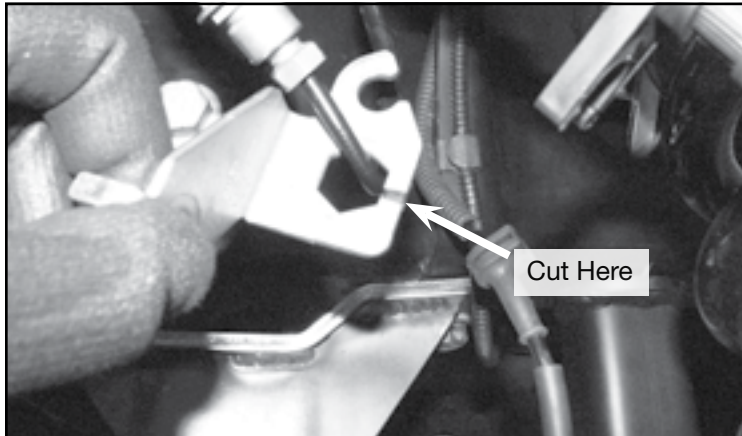
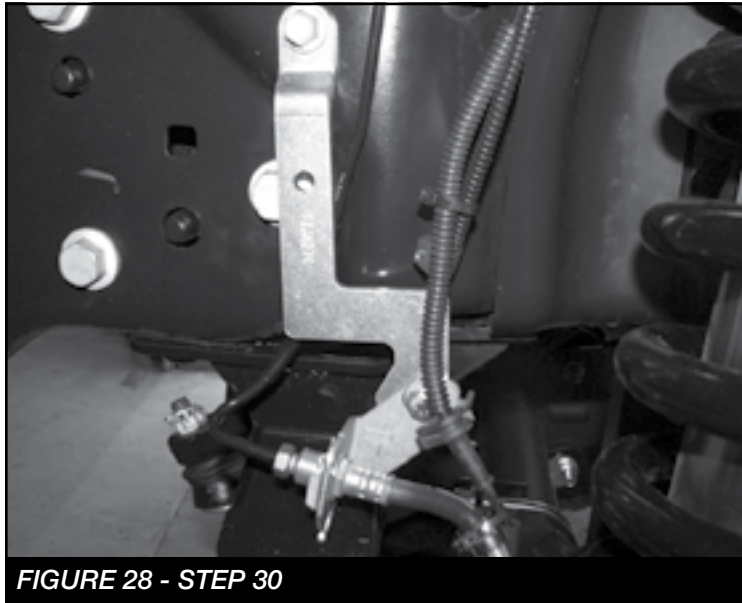

FIGURE 27 - STEP 30
FIGURE 28 - STEP 30
- 30. (DRIVER SIDE)** Remove the factory brake line bracket from the hard line by cutting a relief **SEE FIGURE 27**. Install FT30276 (Brake line bracket) to the factory location using the factory hardware. Install the factory bracket to the new Fabtech bracket using the supplied 3/8" X 1" hardware. Pull down on the brake line as well as bend the hard line and reconnect to the factory bracket. Torque hardware to 52 ft-lbs. **SEE FIGURE 28**